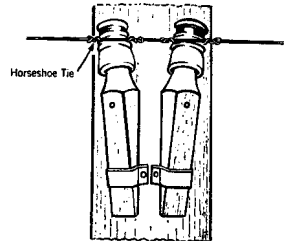

Figure 4. Placement of Wires on Adjacent Insulators.
- 3.02 At some corners it may be necessary to place two wooden pole brackets so the line will clear the pole. When this is done, place the wires as shown in Figure 4.